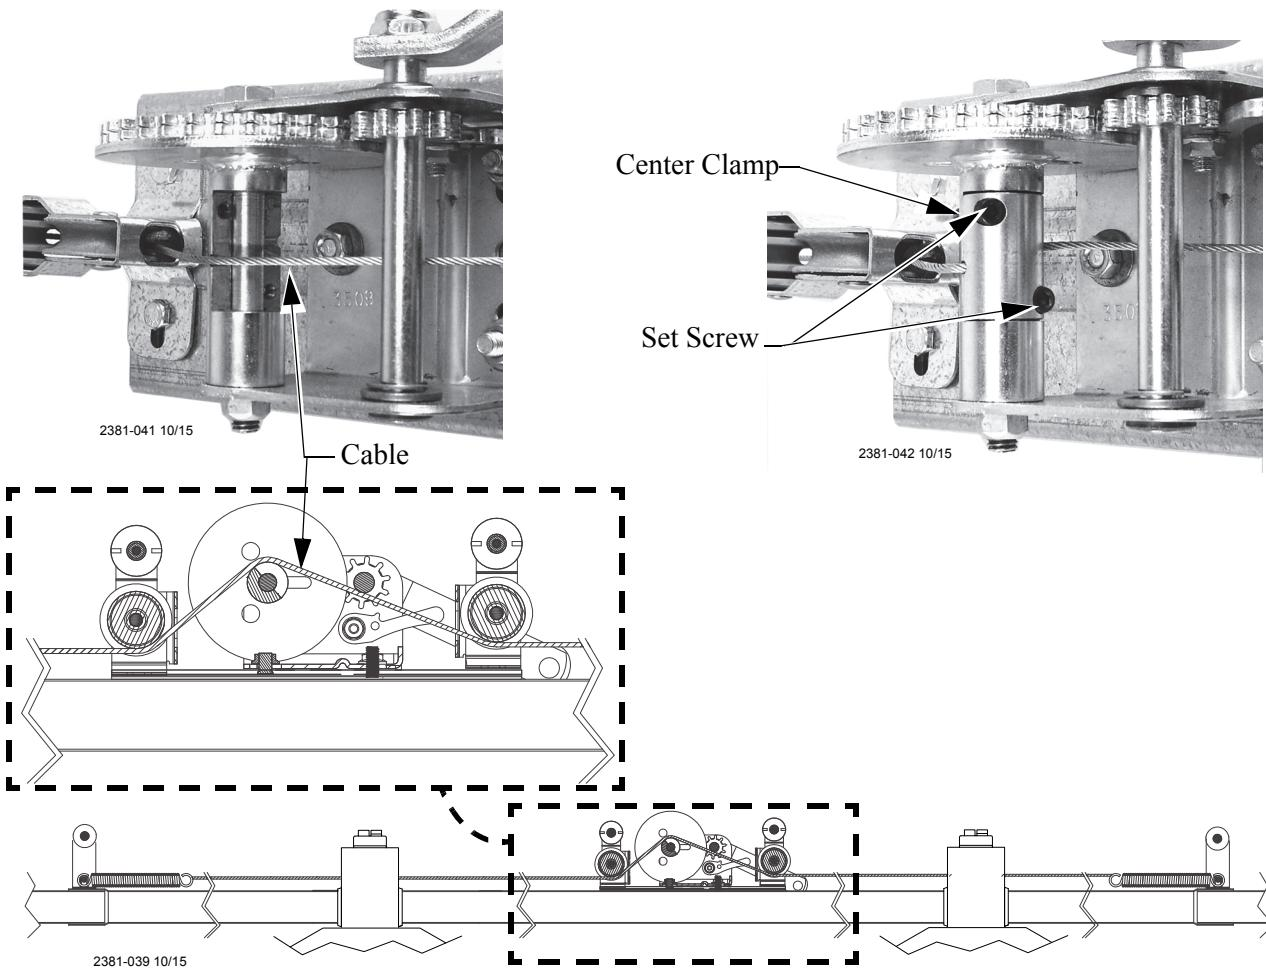

Figure 47.Cable Routing
4. Route the Cable through the Center Hub of the Winch as shown. See **Figure 47**.